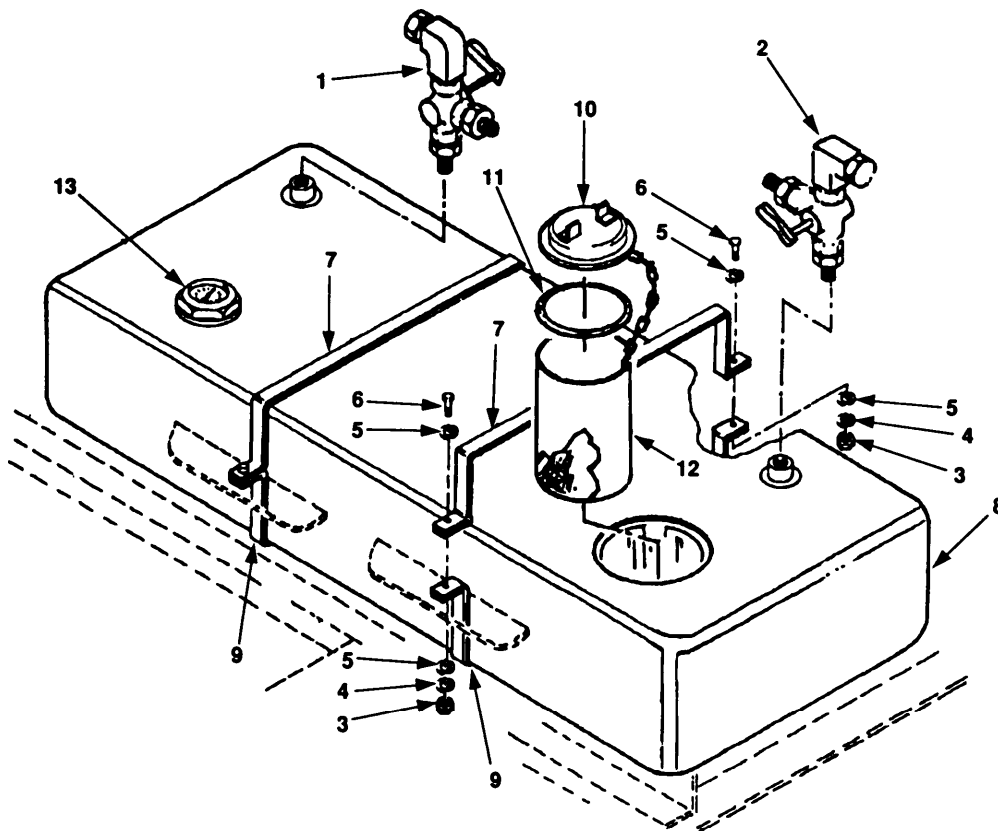

Figure 5-16. Fuel Tank Maintenance.
- b. Remove three-way fuel selector valves (figure 5-16, 1 and 2).
- c. Remove four nuts (3), lockwashers (4), eight washers (5), and four bolts (6).
- d. Remove top two straps (7).
- e. Remove fuel tank (8) and bottom two straps (9) from frame.